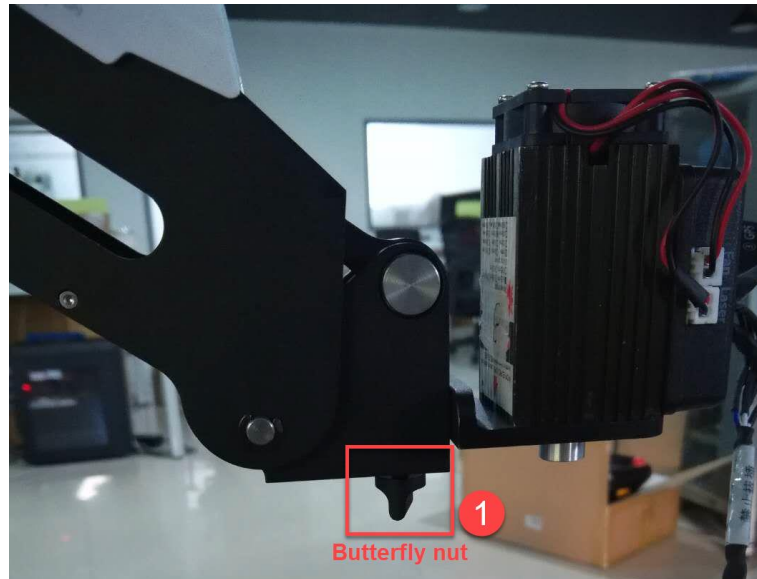

Figure 5.59 Fasten the laser with a butterfly nut
Step 1 Fasten the laser kit to the Dobot Magician's end with a butterfly nut, as shown in Figure 5.59.